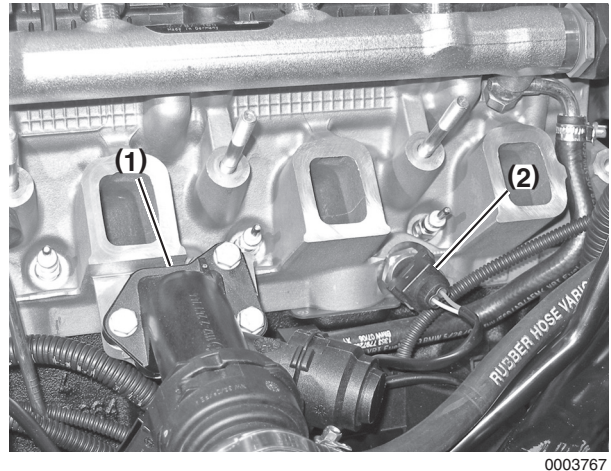

Figure 5-12
15. Remove three bolts and the coolant branch fitting (**Figure 5-12, (1)**).
16. Disconnect electrical connector from the coolant temperature sensor (**Figure 5-12, (2)**).